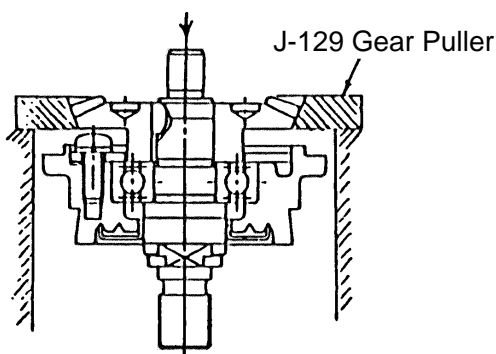

Fig. 4
As illustrated in Fig. 4, support the angled surface of the Gear (22) with a J-129 Gear Puller (special repair tool, Code No. 970905), rest the J-129 Gear Puller on a J-130 Sleeve (special repair tool, Code No. 970907), and push down on the tip of the Spindle (31) with a hand press to remove the Gear (22).